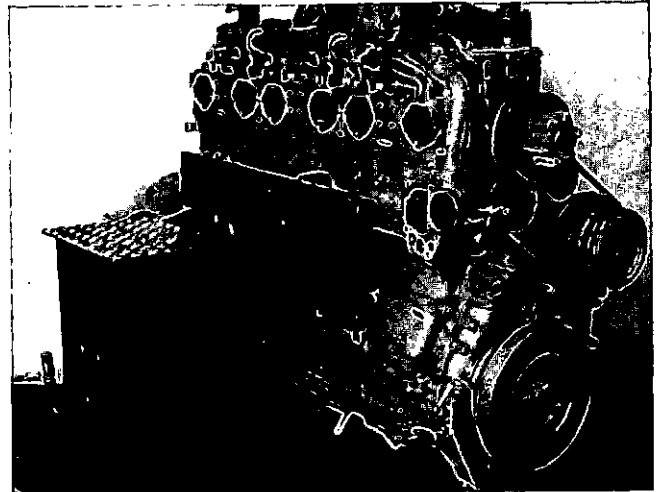

Fig. 0-19. The Engine Installed To The Engine Stand.
4. After the engine is tightly installed to the engine stand, Fig. 0-19, remove the following items.